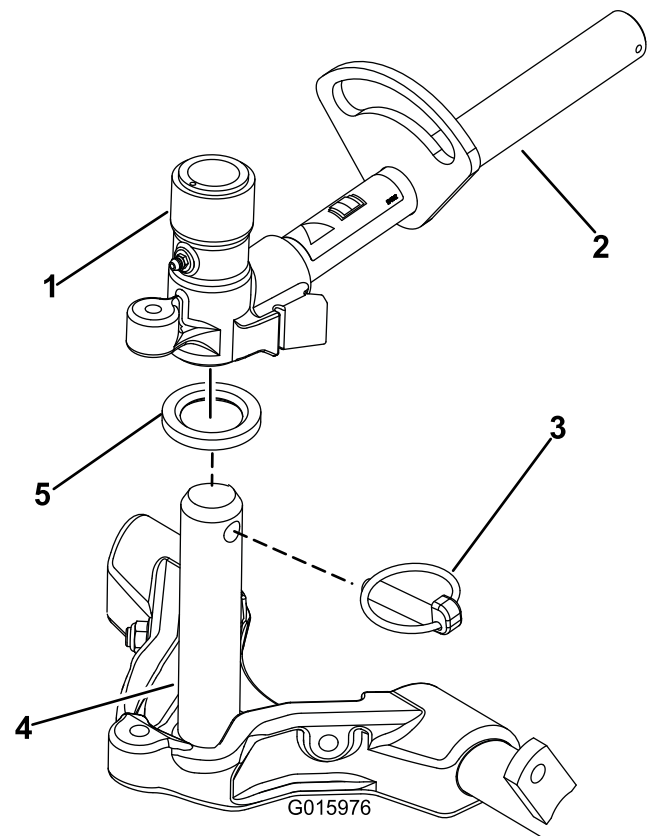

Figure 16
- Coat the carrier-frame shaft with clean grease (Figure 16).
- For the front cutting units, slide a cutting unit under the lift arm while inserting the shaft of the carrier frame up into the lift-arm pivot yoke (Figure 16).
- Secure the carrier-frame shaft to the lift-arm yoke with the klik pin (Figure 16).
- B. Insert the lift-arm yoke onto the carrier frame shaft (Figure 16).